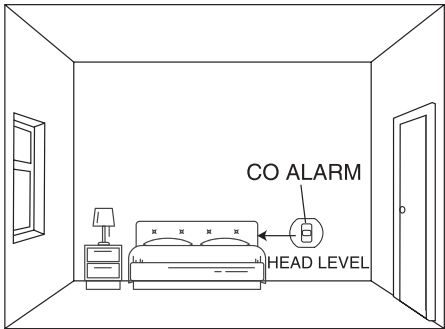

Figure 2: Installation in a bedroom or room without a fuel-burning appliance(installed at head level)
- 2.Installing the CO alarm in a bedroom or room without a fuel-burning appliance (see Figure 2):